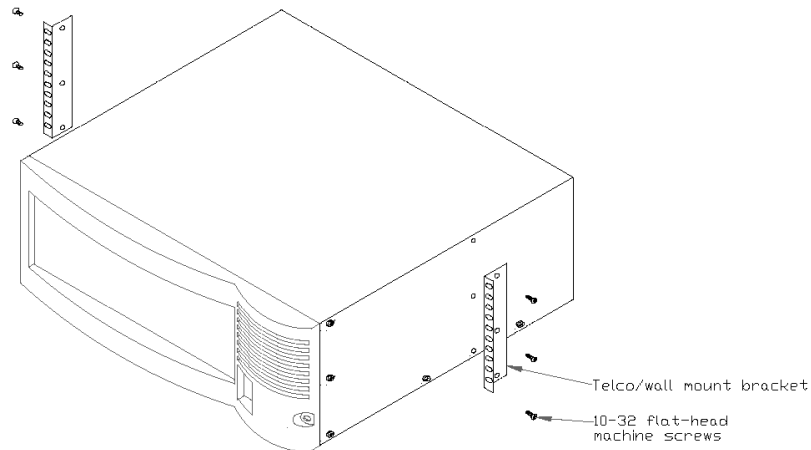

Figure 5. Installing Telco Rack-Mount Brackets
3. Using the black 10-32 flat-head screws provided, install the Telco/wall-mount brackets on the sides of the router as shown in Figure 5.